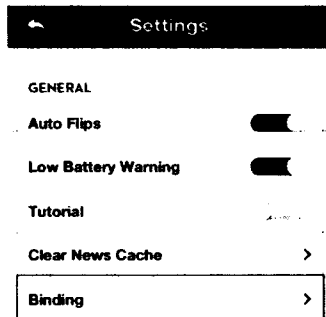
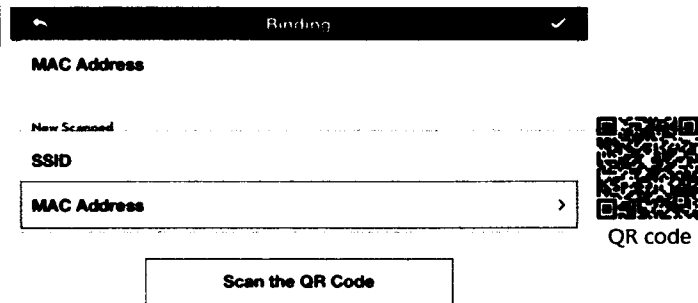
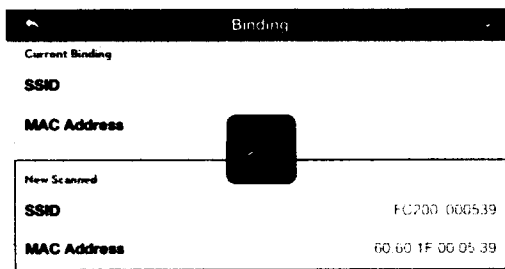
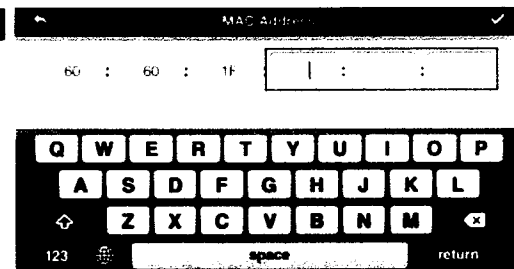

Figure 37
Figure 38
Figure 39
Figure 40
5. (Figure 37) Run the DJI VISION App then tap -> Settings -> General -> Binding. (Figure 38) Select 'Scan
QR Code' to scan the camera QR code on the product packaging. (Figure 39) Get the camera SSID (E.g. FC200_XXXXXX) and the MAC address. You can also skip the scan and enter the camera MAC address directly (Figure 38, Figure 40). The MAC address can be found on the camera label.